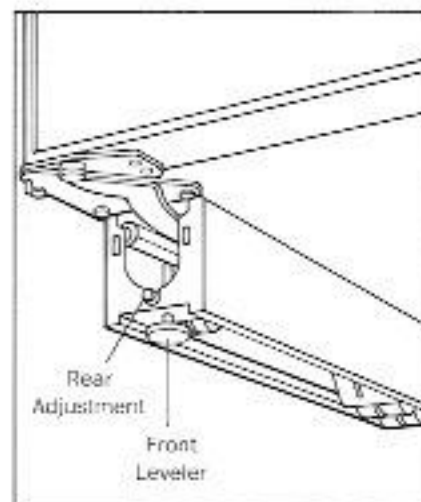

Figure 15
- Using the front and rear levelers, the unit must be raised until it contacts the wood block. See Figure 15.
To reduce possibility of cabinet tipping forward, front levelers must be in contact with floor. See Figure 15.
With the unit positioned properly you should level the unit by turning the front leveling legs counterclockwise to raise or clockwise to lower. The rear levelers (rollers) are adjusted from the front of the base by turning the $\frac{5}{16}$ " hex bolt clockwise to raise and counterclockwise to lower the cabinet. See Figure 15.